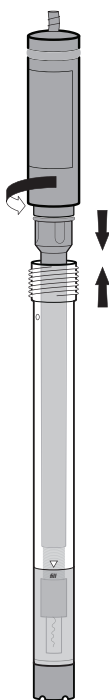

Figure 5
5. Insert the inner body into the preassembled outer body and membrane cap. Ensure that the inner body is fully inserted in the top of the outer body and then screw on the electrode cap. See **Figure 5**.